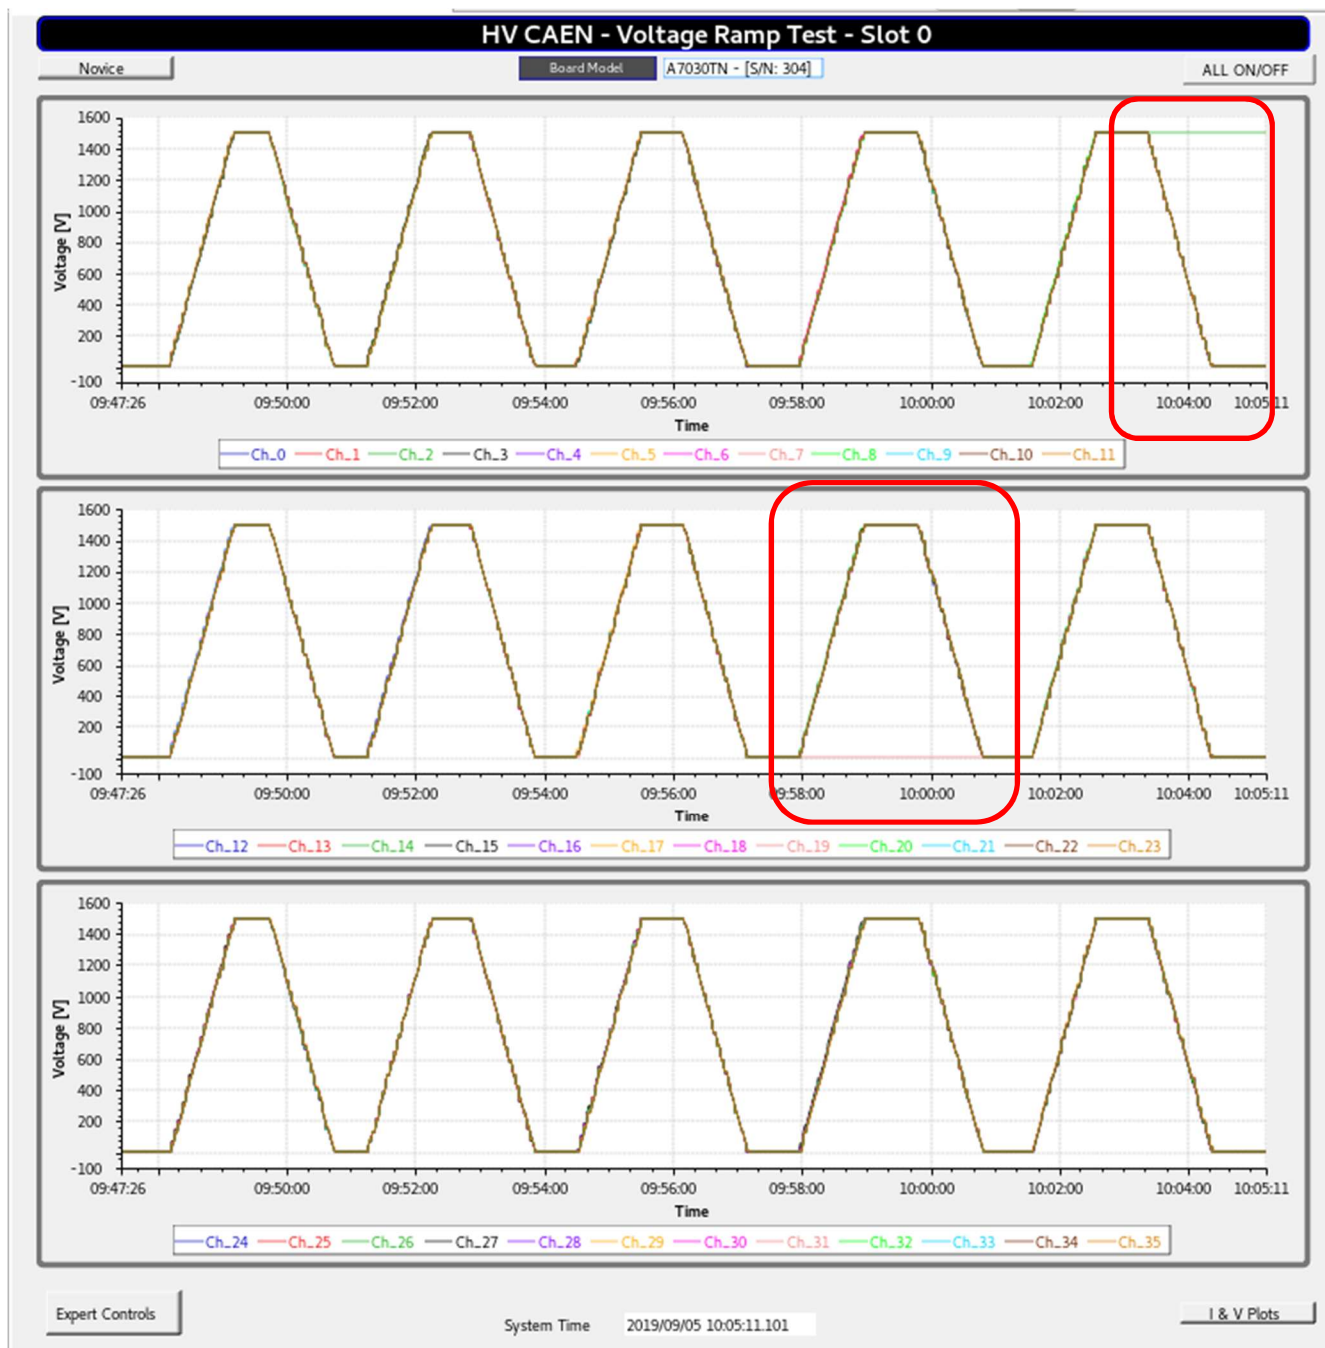

Fig.13 — Voltage Ramp Test CSS-BOY screen shows test 1.3 results. Red rounded rectangles focus the issues found
1. Channel 19 did not ramp up; PV associated with Pw parameter did not change from 0 to 1 after JavaScript was executed as part of *Expert Controls CSS-BOY* screen. See fig.13.
2. Channel 2 did not ramp down; PV associated with P_w parameter did not change from 1 to 0 after JavaScript was executed as part of *Expert Controls CSS-BOY* screen. See fig.13.
2.1. Verified discrepancy between GEICO 2020 and EPICS PVs. See fig.13
Fig. 13 – Discrepancies between GEICO2020 values and PVs showed in CSS screen only for P_w parameters. Noticed that also used EPICS basic command “camonitor” to monitor and verified that P_w PVs did not update during this test.